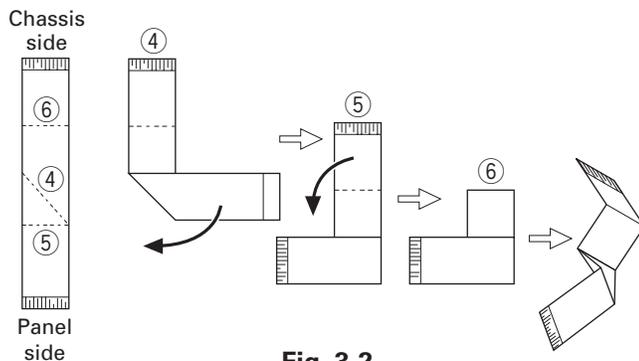

Fig. 3-2
1. Lift the two tabs of the panel on the bottom of the transceiver with a flat-head screwdriver (①) and remove the panel from the chassis (②).
2. Remove the flat cable from the connector (CN901) of the display unit of the panel. (③)
3. Fold the black line of the flat cable (in three parts) as shown in Figure 3-2. (④, ⑤, ⑥)